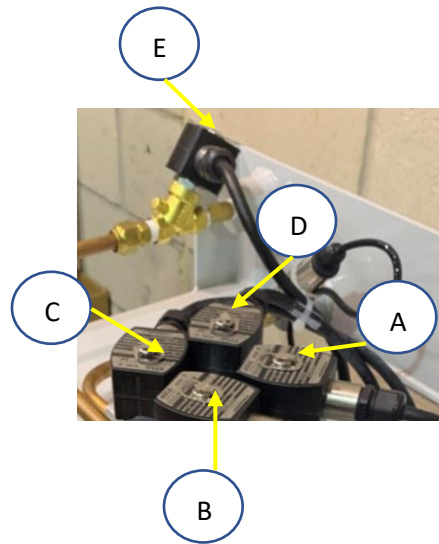

Figure 9-17: Manifold Valves
1. On the manifold, remove the Solenoids A, B, C, and D from the 4 Control Valves located on the manifold. Do not remove Solenoid E. **See Figure 9-17.**